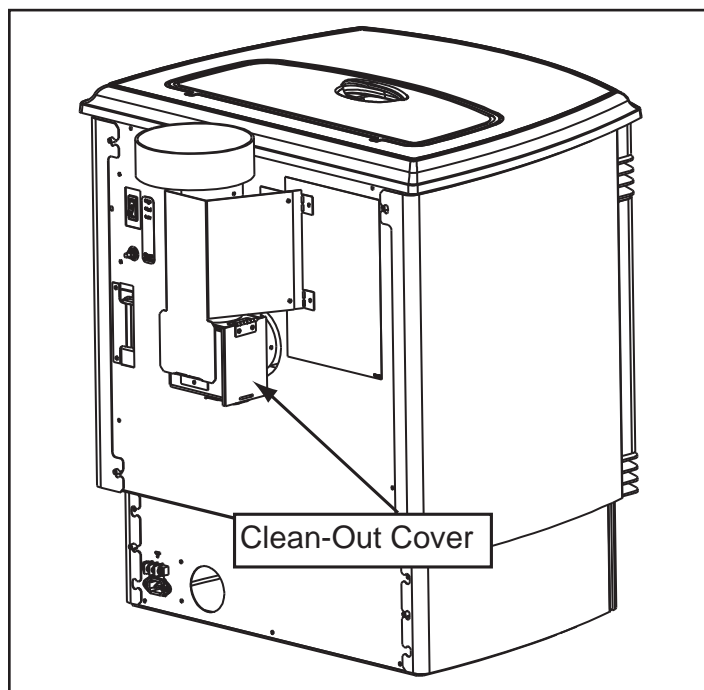

Figure 14.1
- b. Open the clean out cover. **See Figure 14.1.**